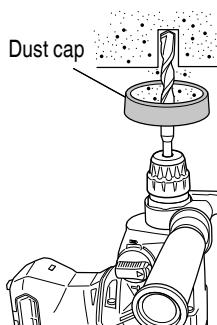
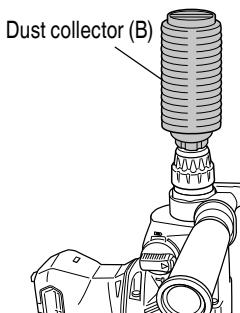

Fig. 13
Fig. 14
4. Installation of dust cup or dust collector (B) (Optional accessories) (Fig. 13, Fig. 14)
Use the dust cup by attaching to the drill bit as shown in Fig. 13.
When using dust collector (B), insert dust collector (B) from the tip of the bit by aligning it to the groove on the grip. (Fig. 14)